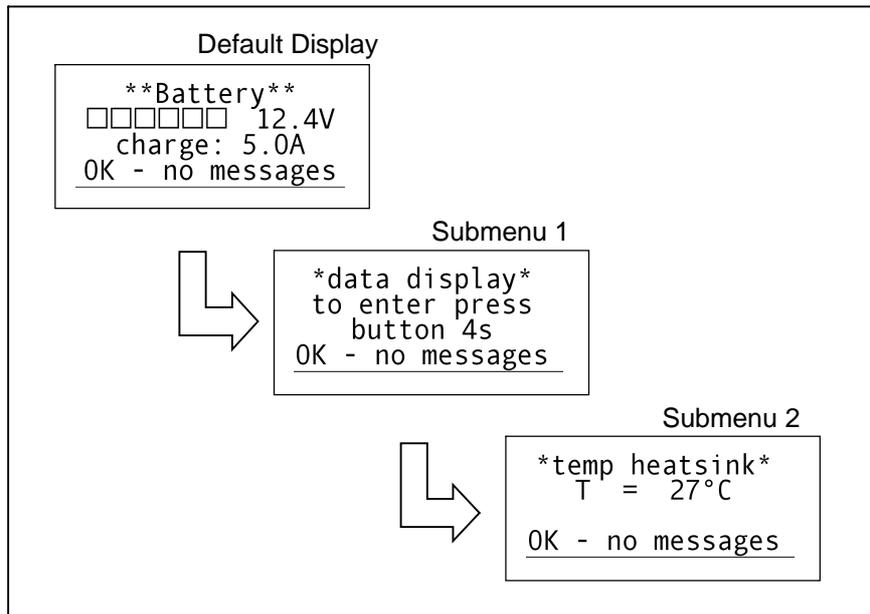

Fig. 16
5. Temperature of Cooling Element (Fig. 16)